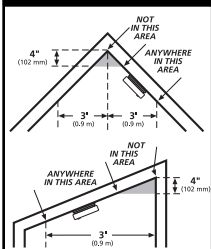

FIGURE 2
- Install Smoke Alarms on sloped, peaked or cathedral ceilings at or within 3ft (0.9m) of the highest point (measured horizontally). NFPA 72 states: "Smoke alarms in rooms with ceiling slopes greater than 1 ft in 8 ft (.3m in 2.4 m) horizontally shall be located on the high side of the room." NFPA 72 states: "A row of detectors shall be spaced and located within 3 ft (0.9m) of the peak of the ceiling measured horizontally" (see figure 2).
If you are not sure about the insulation in your mobile home, or if you notice that the outer walls and ceiling are either hot or cold, install the alarm on an inside wall. For minimum protection, install at least one alarm close to the sleeping rooms. For additional protection, see SINGLE FLOOR PLAN in figure 2.